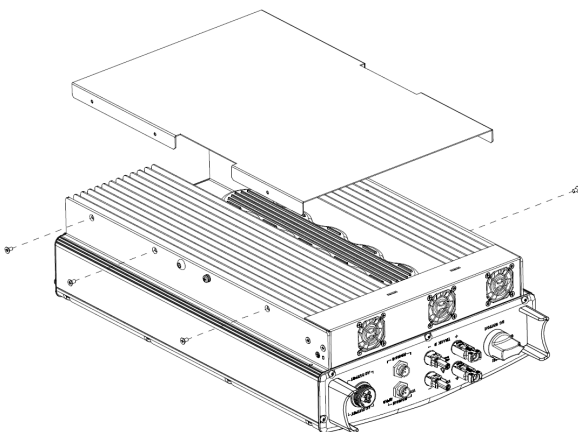

Figure 15A: Disassembling the cooling bin
4. Remove the screws and covers of cooling bin or fan box, as shown in Figure 15A and 15B below.